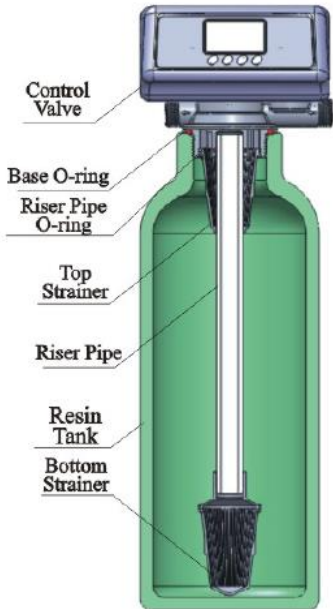

Figure1-1
- ① The filter should be located closely to drain.
- ② Ensure the unit is installed in enough space for operating and maintenance.
- ③ The unit should be kept away the heater, and exposed outdoor. Sunshine or rain will cause the system damage.
- ④ Please avoid to install the system in one Acid/Alkaline, Magnetic or strong vibration circumstance, because above factors will cause the system disorder.
- ⑤ Do not install the filter, drain pipeline in circumstance which temperature may drop below 5°C, or above 50°C.
- ⑥ One place is recommended to install the system which causes the minimum loss in case of water leaking.
① Install control valve
a. As the figure1-1 shows, select the relevant riser pipe, glue the riser pipe to the bottom strainer and put it into the mineral tank, cut off the exceeding tube out of tank top opening. Plug the riser tube in case of mineral entering.